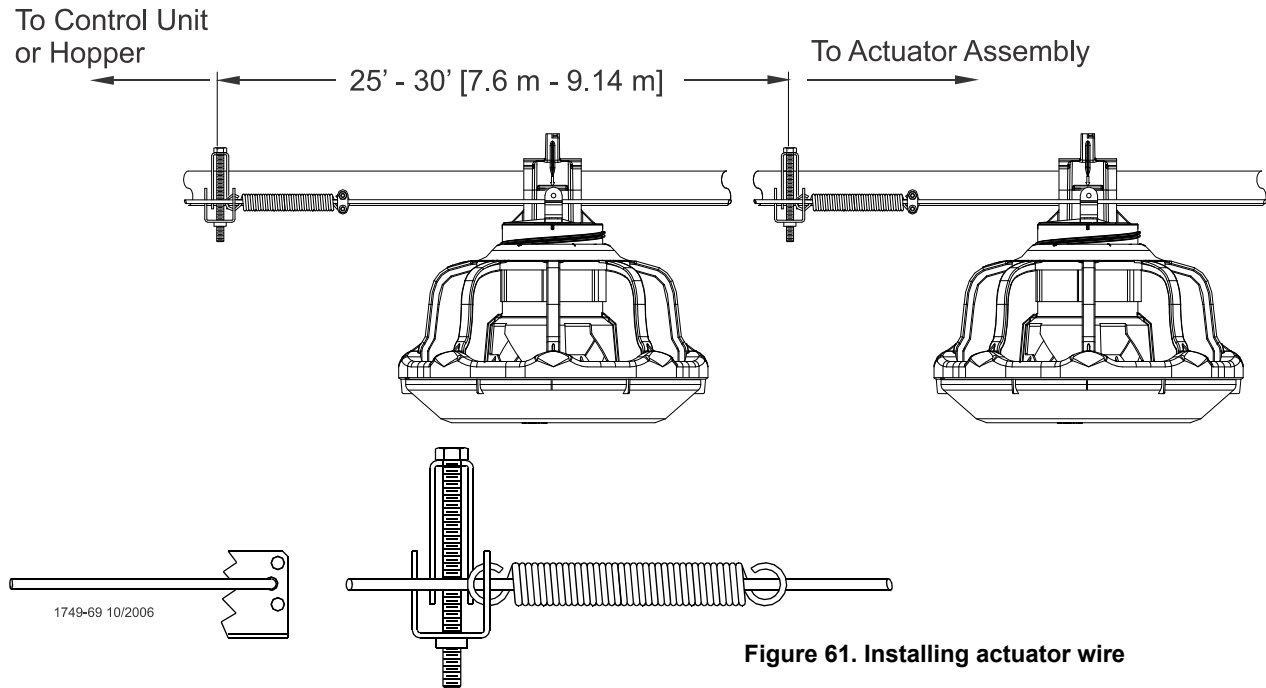

Figure 61. Installing actuator wire
1. Beginning at the terminal spring bracket or if a pusher pan is used start at that spring bracket. Slide the end of the actuator wire through the two holes in the bracket and through the center of the end spring, **see figure 61**